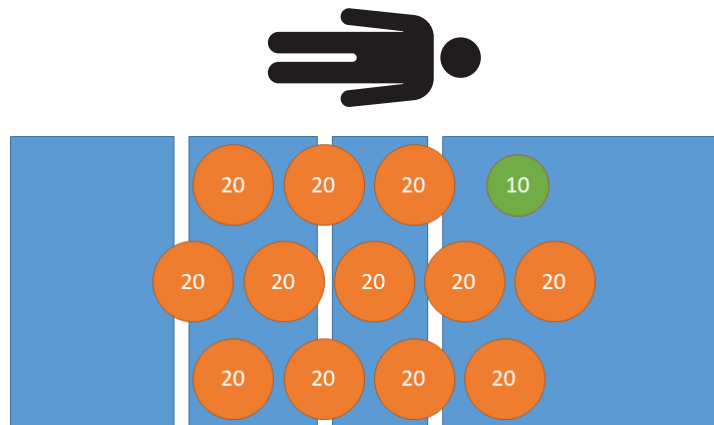

Figure 23 – Weigh performance test - 250 kg
6. Using calibrated weights, place 250 kg on the product (Figure 23).